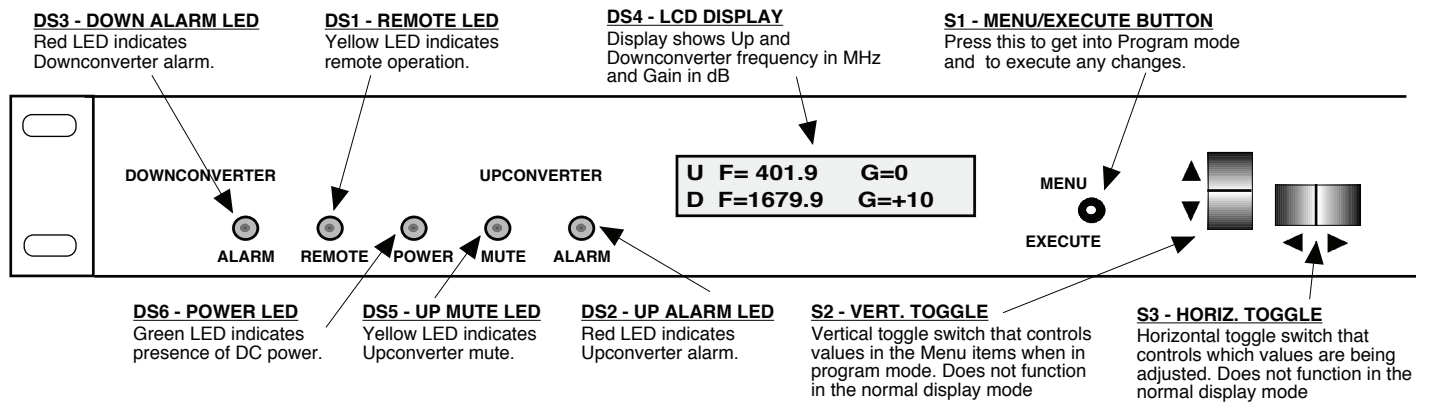

Figure 2.2 Model 2017-0416 Front Panel Controls and Indicators
- 4.) Be sure DS6 (green, DC Power) is on and DS2 & DS3 (red, Alarm) are off (Figure 2.2).
2.5.1 Functions - This section describes operation of the front panel controls. There are three operator switches, the LCD display and alarm indicator LEDs. All functions for the equipment are controlled by these components. The functions are (see Figure 2.2):
Alarm indications appear on the LEDs (see figure 2.2).